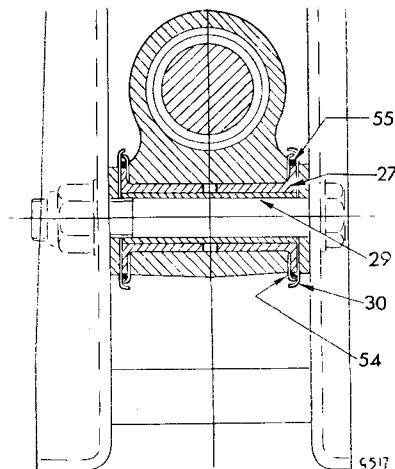

Fig. 32. Sectioned view of trunnion bushes
6. Examine and if necessary replace the seals and bushes as Fig. 32.
7. Fit the vertical link assembly (10) to the trunnion housing (26) and to the road spring eye bush (1). Do not, at this stage, fully tighten the spring eye bolt (46).
8. Jack up beneath the vertical link and fit the damper (9), radius arm (32) and the axle shaft coupling (45).
9. Place a trolley jack under the differential casing, remove the chassis stands and, with the vertical link supported at its running height, load the car and lower its rear end until the axle shaft assumes its static laden operating position. This is to allow the rubber bushes to assume their correct working position before tightening the nuts (11), (8), (13) and (28).